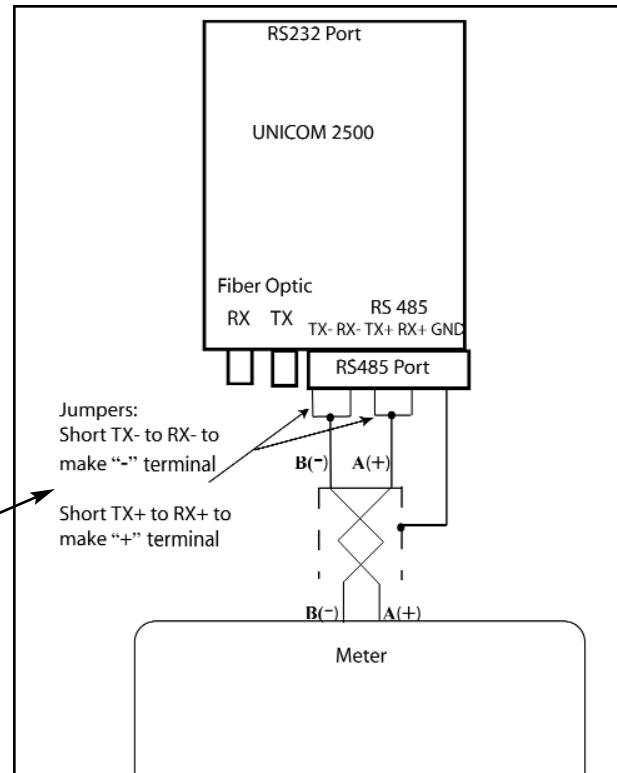

Figure 5.9: Detail of "Jumpers"
As shown in Figure 5.9, you connect the "RX-" and "TX-" terminals with a jumper wire to make the "-" terminal, and connect the "RX+" and "TX+" terminals with a jumper wire to make the "+" terminal.
- Insert the other end of the cable into the Output module's female RS485 side port (see Figure 5.9). (The connectors fit only one way into the ports.)
- Connect the A(+) and B(-) terminals on the Nexus® meter to the A(+) and B(-) terminals of the female RS485 port. Connect the shield to the shield (S) terminal. The (S) terminal on the Nexus® meter is used to reference the meter's port to the same potential as the source. **It is not an earth-ground connection. You must also connect the shield to earth-ground at one point.**